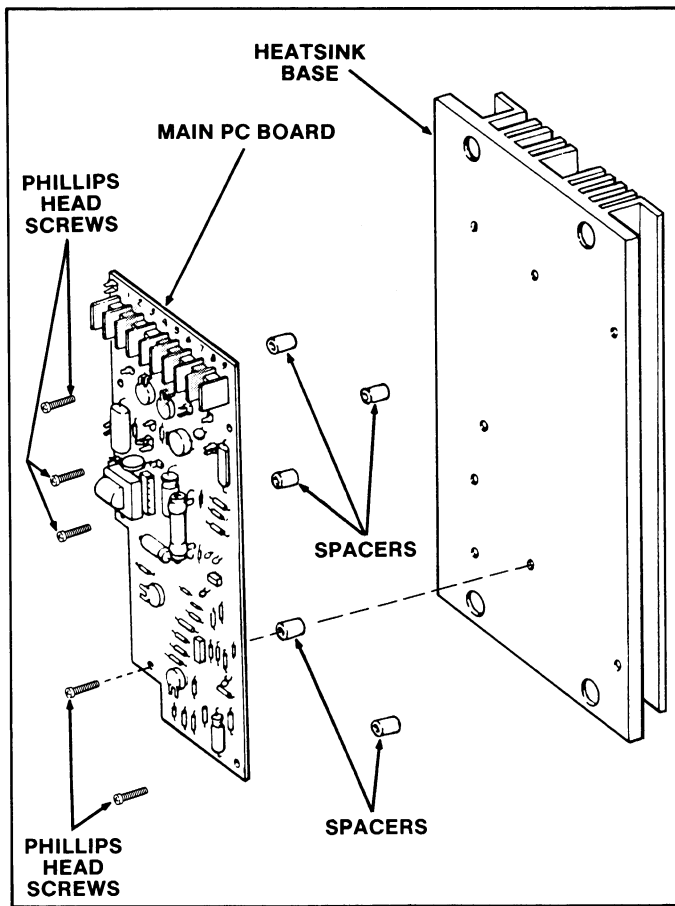

Figure 5 — PC Board Mounting — OPEN CHASSIS
3. Remove the 5 Phillips head screws which secure PC board to heatsink. Also remove the 5 spacers (stand-offs) between PC board and heatsink — retain screws and spacers (see Figure 5).
5. Mount replacement PC board to heatsink with the 5 screws. A spacer must be on each screw between PC board and heatsink (see Figure 5).